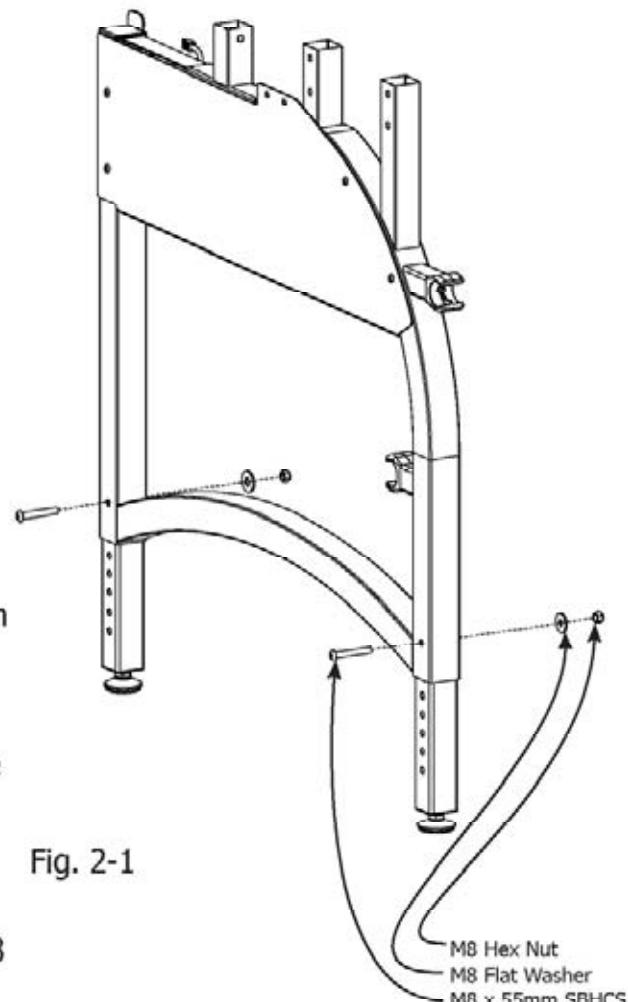

Fig. 2-1
**2-1:** To adjust the legs, remove the pre-installed M8 x 55mm SBHCS, M8 Flat Washer, and M8 Nylock Nut from the frame ends and middle leg if assembling in King size. (Fig. 2-1)
**2-3:** Fasten the M8 x 55mm SBHCS, M8 Flat Washer, and M8 Hex Nut to the adjusted legs with the tools provided. (Fig. 2-1)